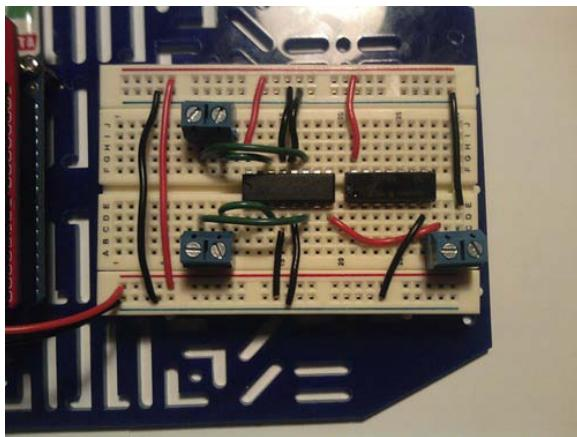

Figure 4-20. The output pins on the H-bridge are connected to the terminal blocks.
7. Attach the 9V connector to the last terminal block, as shown in Figure 4-20.